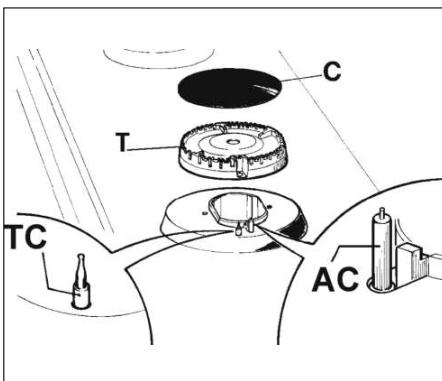
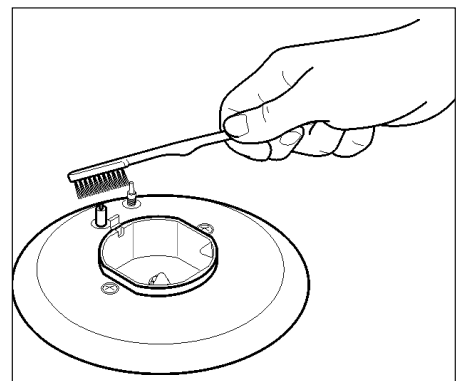

FIG. 6
FIG. 8
Periodically wash the hot plate, the pan support, the enamelled burner caps "A", "B" and "C" and the burner heads "T" (see fig. 6 - 7) with lukewarm soapy water. They should also be cleaned plugs "AC" and **safety cut-off devices** "TC" (see fig. 6). Clean them gently with a small nylon brush as shown (see fig. 8) and allow to dry fully.
- *check that burner heads slots (see fig. 6 - 7) have not become clogged by foreign bodies.*
- *Check that enamelled burner cap "A - B - C" (fig. 6 - 7) have correctly positioned on the burner head. It must be steady.*
- *To prevent difficulties with lighting, regularly clean the ignition elements (ceramic and electrode) and safety cut-off devices (fig. 6).*